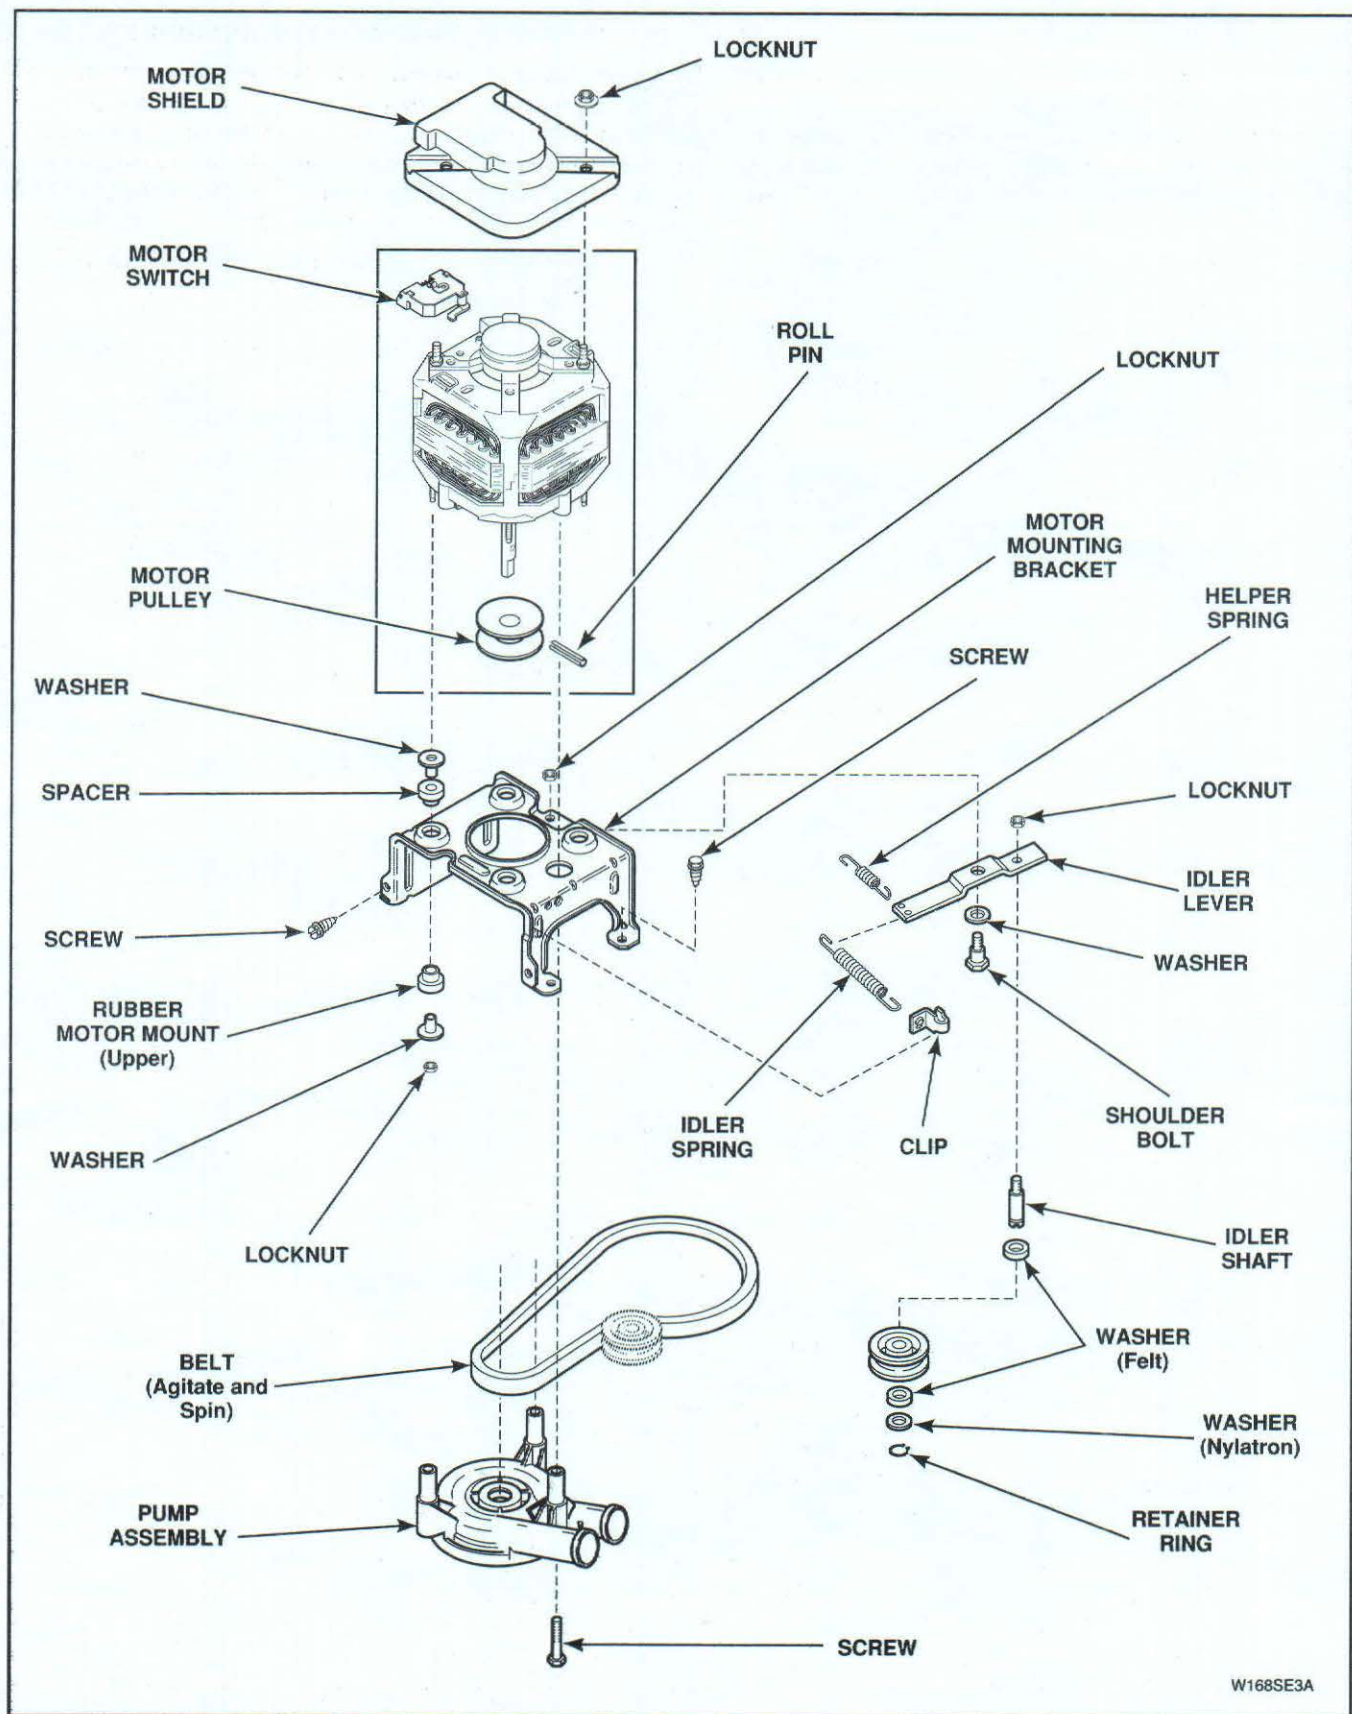

Figure 25
Remove nuts, steel washers, spacers and rubber mounts holding motor to mounting bracket, *Figure 25*. Lift motor off mounting bracket and remove balance of rubber mounts and steel washers from motor mounting studs.
NOTE: Refer to *Figure 25* for motor and mounting bracket assembly sequence.
- Unhook idler spring and helper spring from idler lever, *Figure 25*.
- Remove nut, washer and bolt holding idler lever and pulley to motor mounting bracket, *Figure 25*.
NOTE: Refer to *Figure 25* for idler lever and pulley assembly sequence.
- d. Unhook idler spring and helper spring from idler lever, *Figure 25*.
NOTE: To remove pulley, support motor shaft (to prevent bending shaft) and drive out pulley roll pin, *Figure 25*.
- Remove two locknuts holding motor shield to motor, *Figure 25*, and remove shield.